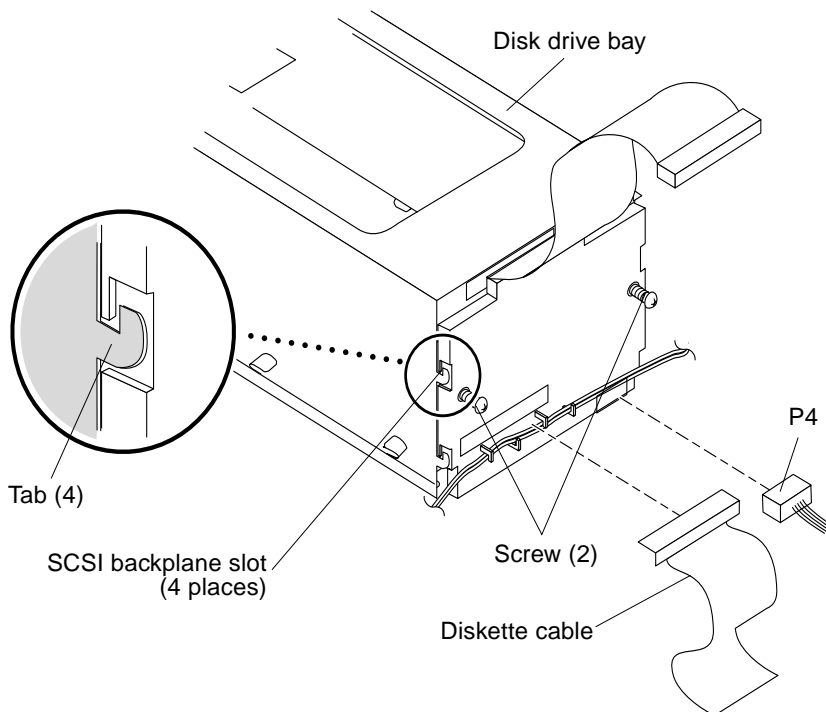

FIGURE 8-16 Replacing the SCSI Backplane
3. Position the backplane assembly on the disk drive bay so the backplane assembly slots sit on the tabs (FIGURE 8-16).